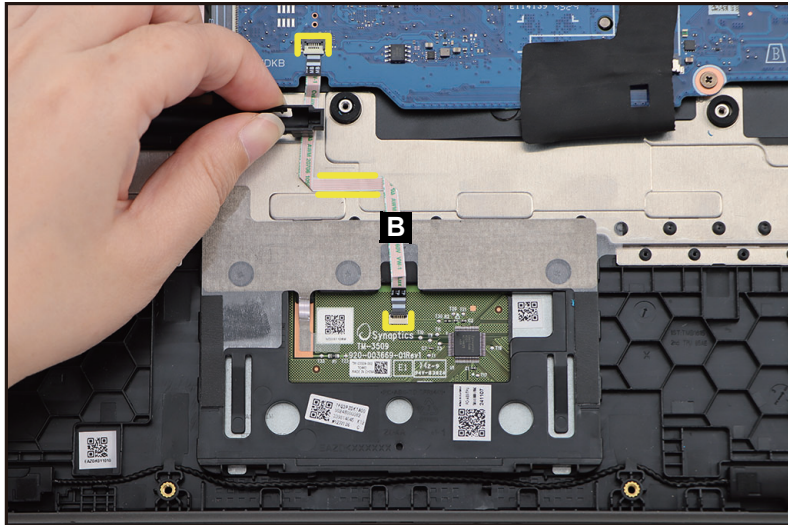

Figure 1-14. Touchpad Module Removal
2. Disconnect the touchpad FFC (B) from the touchpad module and mainboard connectors (Figure 1-14).
3. Pull the upper portion of the touchpad FFC to release the FFC from the stylus holder. Then carefully detach the touchpad FFC from its underneath adhesive (highlighted with the yellow lines) and remove the touchpad FFC (Figure 1-14).